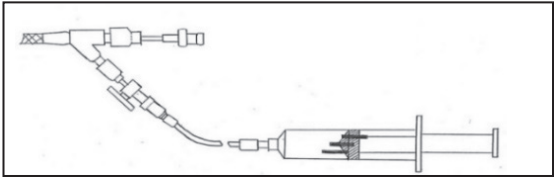

Figure 5
- E. Connect the **Syringe** to the balloon inflation luer-lock hub without letting in air (**See Figure 5**).